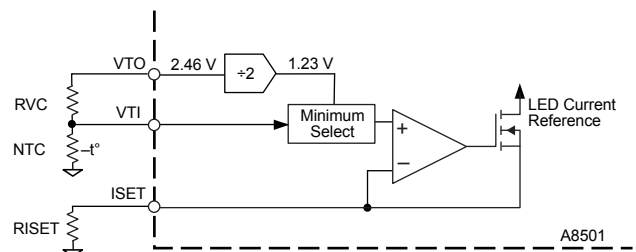
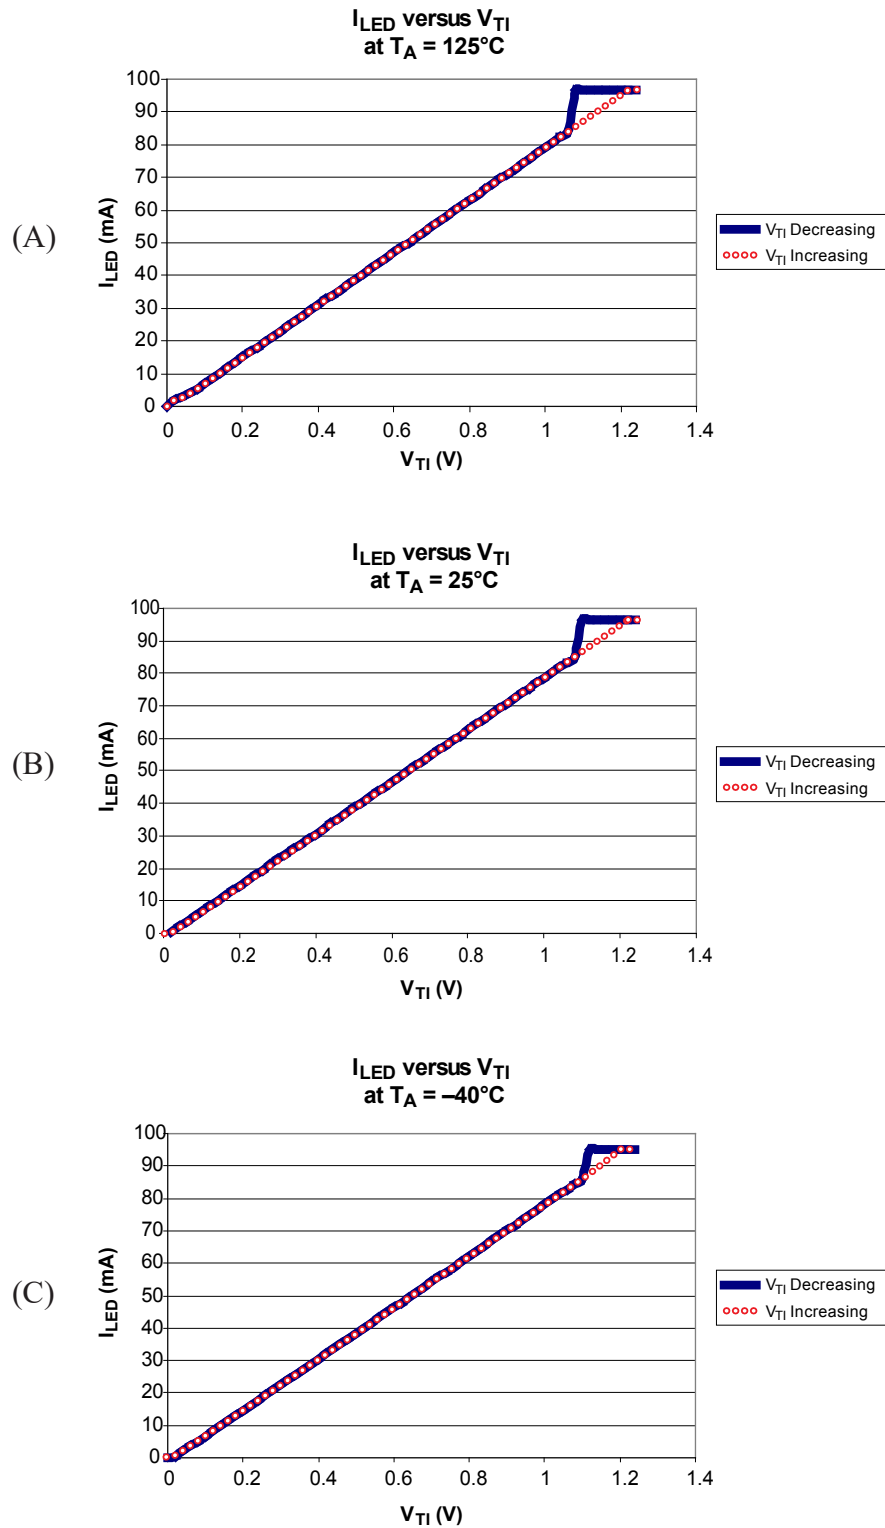

Figure 5: Thermal Derating Reference Circuit
Figure 6: LEDx Current versus V_{T1}
- Analog dimming using the VTI pin. External DC voltage can be applied to the VTI pin to control LED current. LED current varies as a function of voltage on the VTI pin. This configuration is shown in Figure 5.
Thermal derating can be achieved by connecting an NTC thermistor between VTI and ground, as shown in figure 5. When the A8501 is enabled and $V_{TI} > 1.1$ V, 100% current for the LEDs is controlled by the ISET and DIM pins. This is represented by the solid blue curves in figure 6. When V_{TI} falls below 1.1 V, V_{ISET} starts to follow V_{TI} , resulting in I_{LEDX} varying proportionately with V_{TI} represented by the overlap of the dotted and solid curves. The proportion of I_{LED} to V_{TI} , when LED current is controlled through the VTI pin, is calculated as:
There is a hysteresis built into the VTI pin circuit, so while V_{TI} is decreasing, there is a delay before proportional change begins if VTI pin voltage starts above 1.1 V, as shown by the solid blue curves in figure 6. When V_{TI} starts below 1.1 V, or falls below 1.1 V during operation and then starts increasing again V_{ISET} will follow V_{TI} until the voltage reaches 1.23 V as shown by the red-and-white dotted curves in Figure 6.